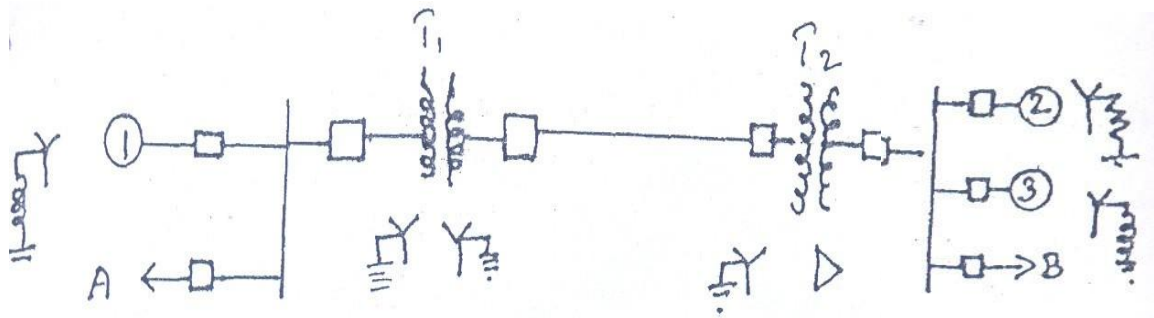

Fig. 3
3. Obtain the per unit impedance (reactance) diagram of the power system shown in Fig.3